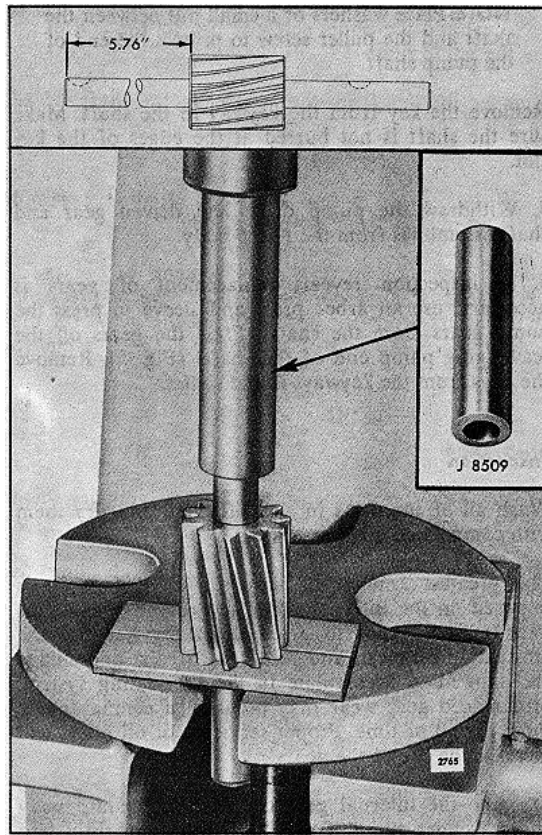

FIG. 8 - Installing Oil Pump Gear on Shaft
1. If the pump gears were removed, insert a Woodruff key in the keyway of one of the shafts and apply a light coat of engine oil to the shaft. Start the gear squarely on the key of one of the shafts, then slip tool J 8509 over the drive gear (or opposite) end of the shaft and press the gear on the shaft as shown in Fig. 8. Tool J 8509 will position the gear 5.76" from the end of the shaft as well as prevent the shaft from bending. Assemble the second shaft and gear in a similar manner.